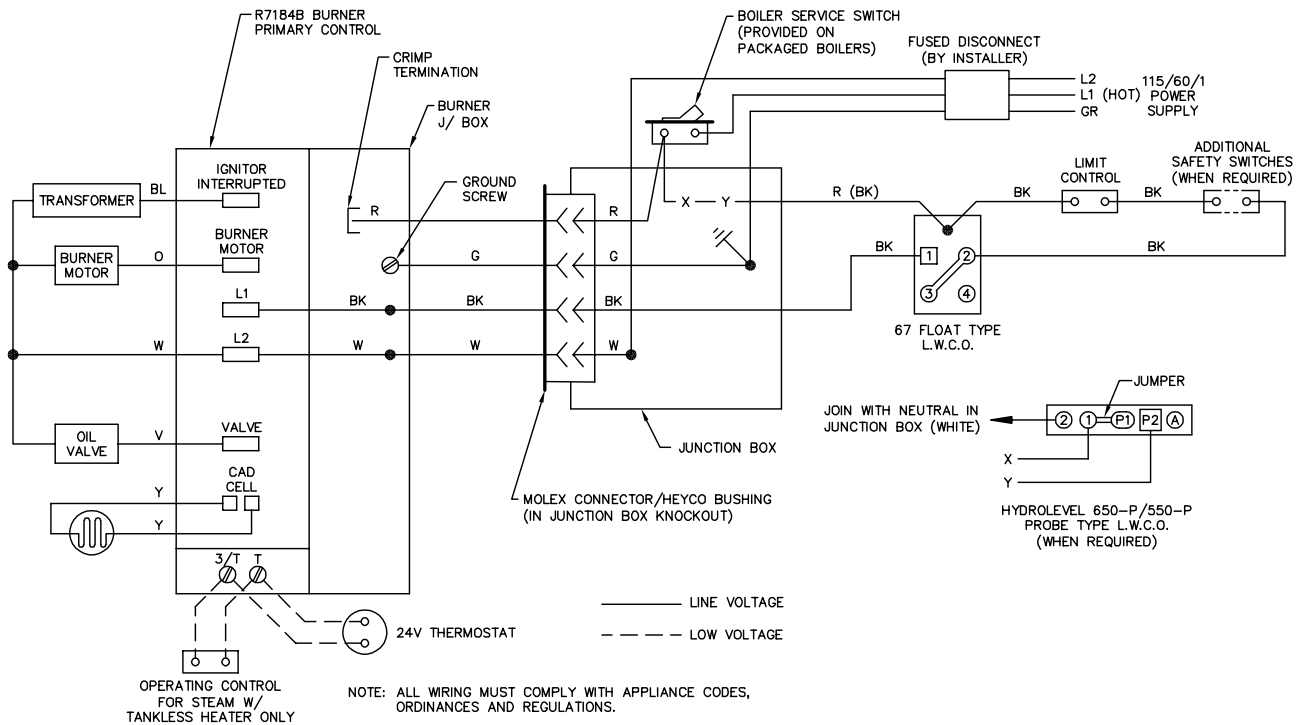

Figure 4.2: Steam Boiler with Float Low Water Cut-Off
- Figure 4.2 - Steam Boilers with Float LWCO